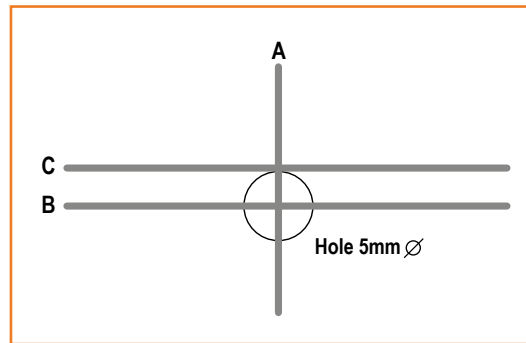

Figure 6. Guide lines (literally) to help with the LED pin bending.
The first step for assembly was to take all 512 LEDs and bend them correctly. To do this I drilled a 5mm hole in a spare piece of wood and checked that a LED fit snugly and flush to the wood but could also be inserted and removed easily. Once I had my hole correct I drew some guide lines to help with the bending. As pictured in **Figure 6**, the lines I drew were one vertical running through the center of the hole (A), one horizontal line running through the center of the hole (B) and one horizontal line running through the very edge of the hole (C). A metal ruler came in very handy during the bend stage.